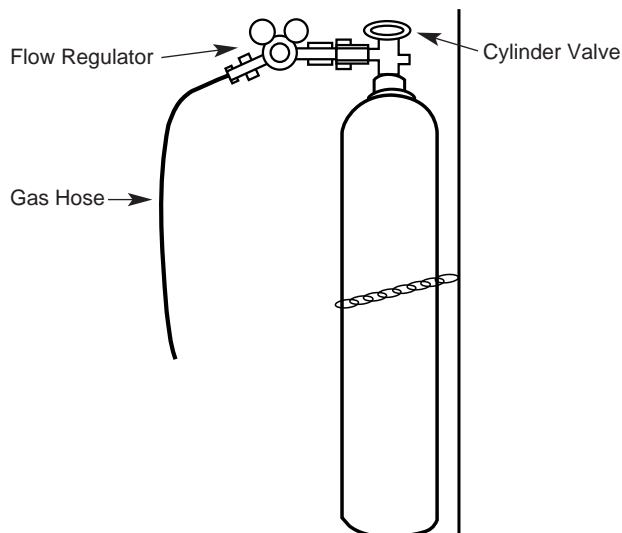

FIGURE A.5
1. Chain the cylinder to a wall or other stationary support to prevent the cylinder from falling over. Insulate the cylinder from the work circuit and earth ground. Refer to Figure A.5.